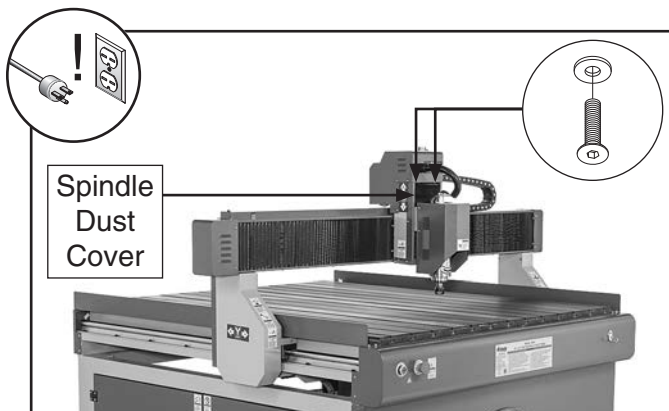

Figure 42. Spindle dust cover location.
3. Access Z-axis ball screw and guide rails by removing (2) flat head cap screws and flat washers on upper end of spindle dust cover (see **Figure 42**).